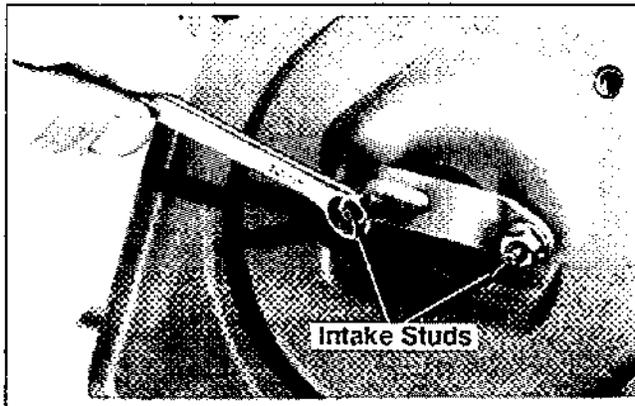

Figure 9-6. Removing Air Cleaner Base.
3. Remove the hex flange nuts from the intake studs, and the air cleaner base and gasket from the studs. See Figure 9-6.